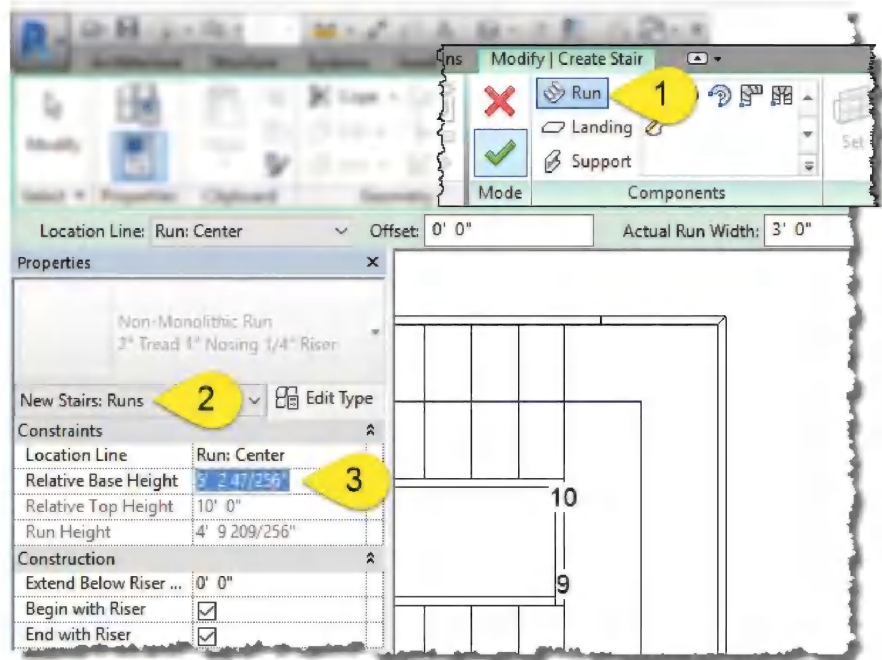

FIGURE 5-3.20 Adding an extra stair run from an intermediate landing
- Select the **Run** command on the **Ribbon** (Step #1, Fig. 5-3.20)
- Switch the *Properties Palette* drop-down to **Run** (Step #2, Fig. 5-3.20)
- Paste the landing height into **Relative Base Height**; **CTRL + V** (Step #3, Fig. 5-3.20)